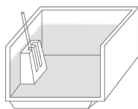

Figure 2. Rack in liquid nitrogen
- 2) To prepare for vitrification, the container straw needs to be pre-cooled in liquid nitrogen for at least three minutes before loading the open-pulled straw (OPS). The closed end of the container straw should be placed in a rack in liquid nitrogen that keeps the container straw an upright position. The open end of the container straw must remain 3-4 cm above the liquid nitrogen to prevent contamination. (See Figure 2)